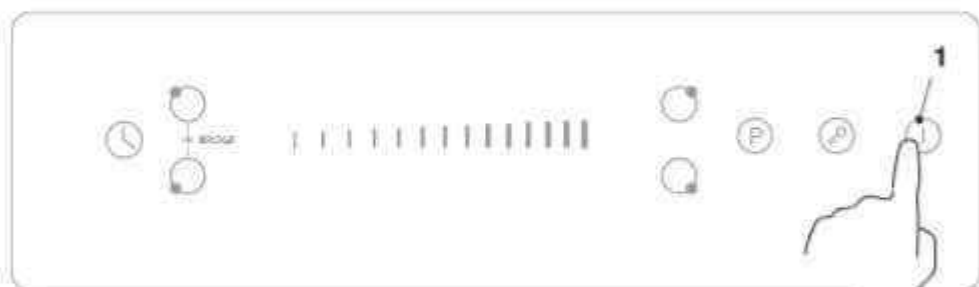

Fig. 4.35
The total power of the induction hob with ECO function can be limited to 2.8/3.5/6.0/7.2 kW with proper power supply (see "ECO function setting table" after Fig. 4.35).
- 4 - Press the hotplate button (5) in question, the number shown on the display indicates that the total power will be reset to the respective ECO power settings (e.g., the front left area button is associated with the number on the display "28," which corresponds to 2.8kW; see also the "ECO function setting table" after Fig.4.35).